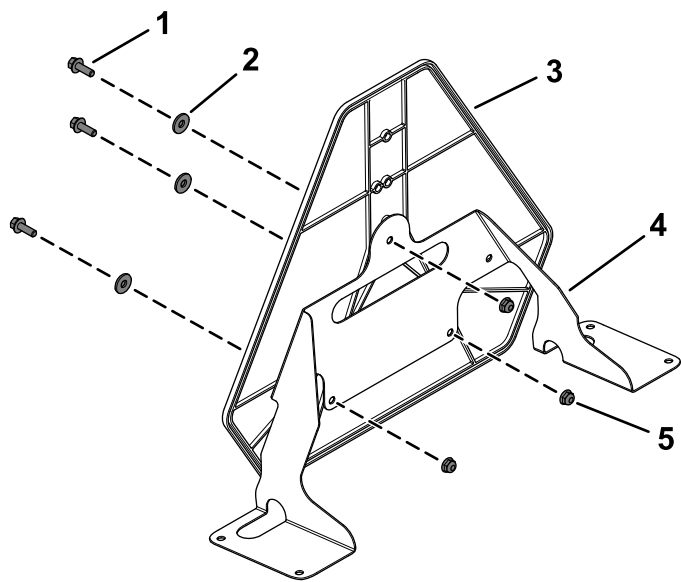

Figure 27
- Secure the slow-moving vehicle sign to the marker mount using 3 flange-head bolts (1/4 x 3/4 inch), 3 flat washers, and 3 locknuts (1/4 inch) as shown in Figure 27.